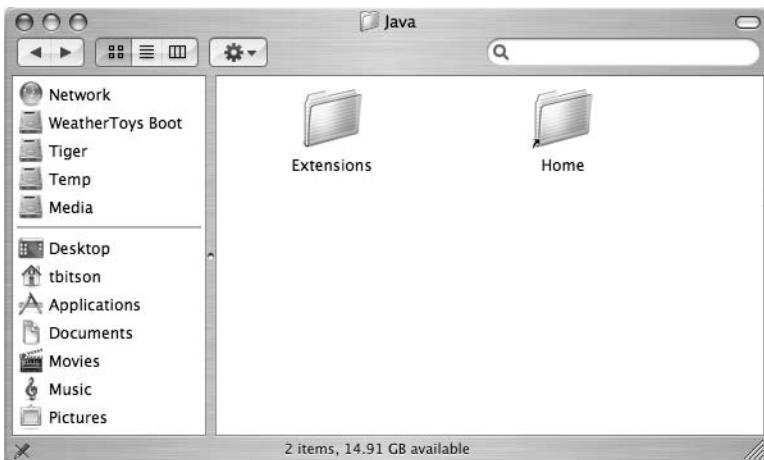

FIGURE 4-1: Mac OS X Java Library folder.
3. Open the Java Library folder. You should see at least two folders, `Home` and `Extensions`, as shown in Figure 4-1. The most important location to remember here is the Java Extensions folder. This is where Apple prefers you to put additional libraries, which you will do soon.